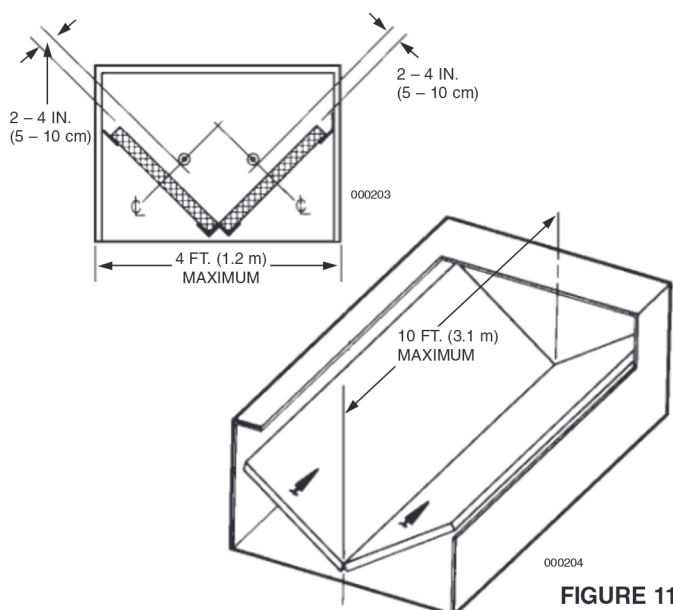

FIGURE 11
- Two 1N nozzles will protect 10 linear feet (3.1 m) by 4 ft. (1.2 m) wide of “V” bank plenum. The nozzles must be mounted in the plenum, 2 to 4 in. (5 to 10 cm) from the face of the filter, centered between the filter height dimension, and aimed down the length. The nozzle must be positioned 0-6 in. (0-15 cm) from the end of the hood to the tip of the nozzle. See Figure 11.